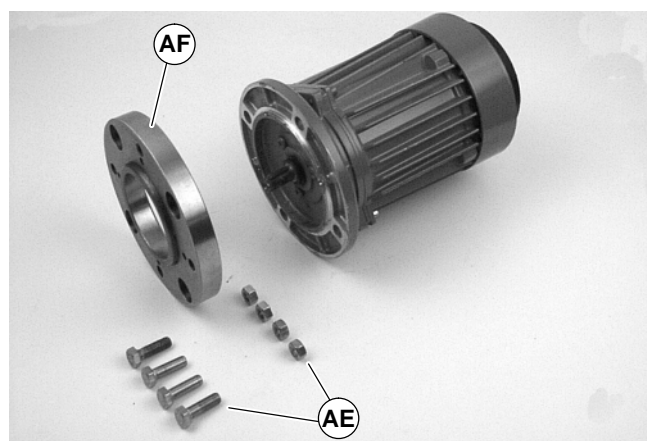

Figure 19
4. Remove four (4) screws and nuts (AE of Figure 19). Remove adapter flange (AF).